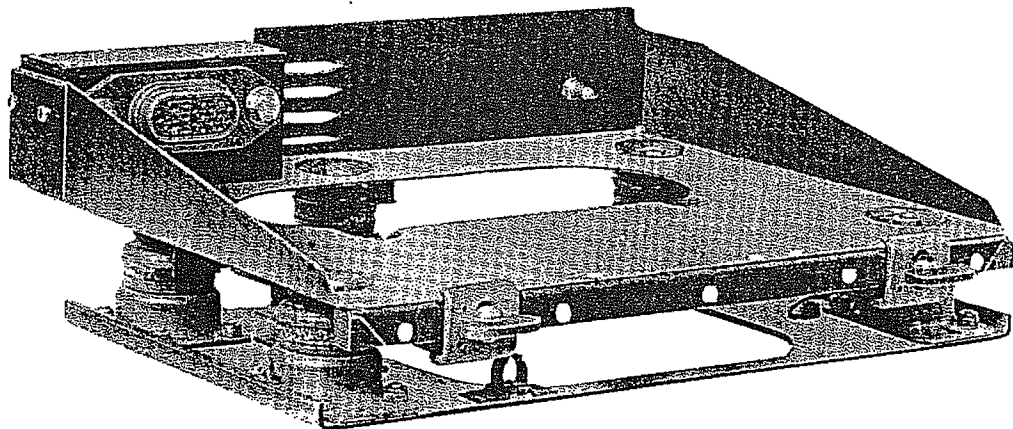

Figure 1-6. Mounting MT-1029/VRC
a. Mounting MT-1029/VRC (fig.1-6)